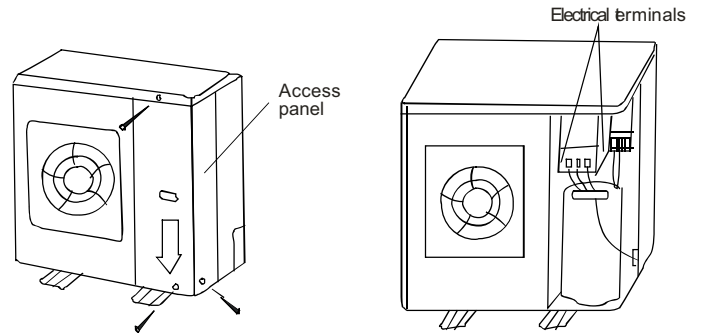

Fig.11-1
- Undo the screws of the access panel cover of the outdoor unit. Pull in the direction of the arrow to pull the access panel down and then out to remove the access panel. This allows access to the compressor compartment and electrical board. (Refer to Fig.11-1)
Fig.11-1 is indicative only, based on one type of outdoor unit. Actual unit supplied may be different.